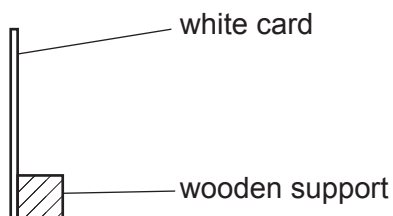

Fig. 3.2
- 2 The screen can be made from a sheet of white card approximately 15 cm \times 15 cm. Some means of supporting the screen vertically must be provided (e.g., fixing the white card to a small block of wood – see Fig. 3.2).